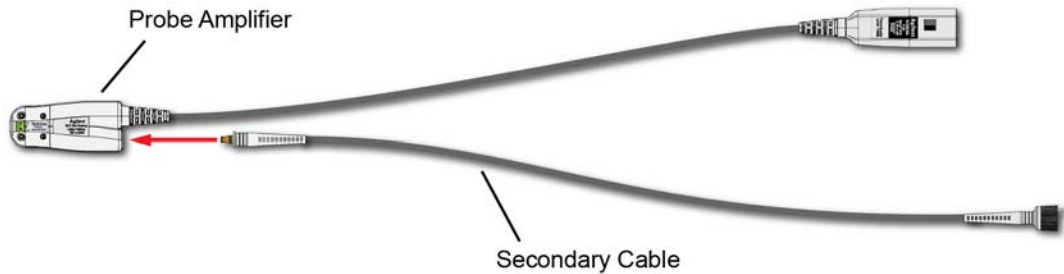

Figure 8 Connecting the N2820A's Secondary Cable
- Gently snap the secondary cable into the probe amplifier as shown in Figure 8.